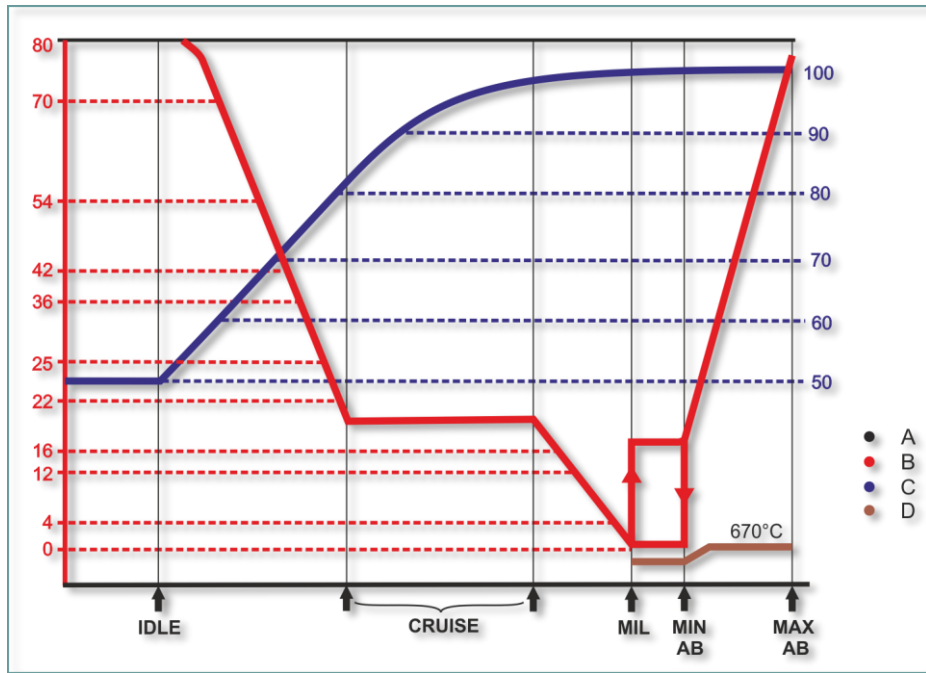

Figure 5.3 Nozzle Operation Schedule
A variable exhaust nozzle control system maintains EGT within allowable limits in MIL and afterburner (AB) power ranges and provides required thrust throughout the operating power range from IDLE to MAX. Figure 5.3